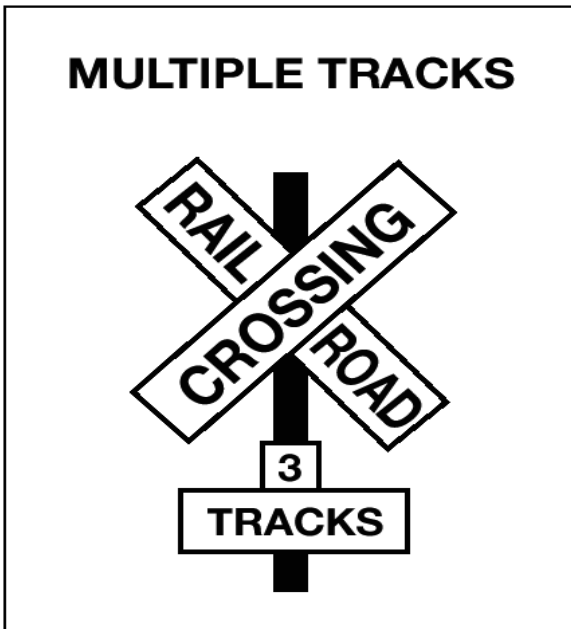

Figure 2.17
**Crossbuck Signs** - This sign marks the grade crossing. It requires you to yield the right-of-way to the train. If there is no white line painted on the pavement, you must stop the bus before the crossbuck sign. When the road crosses over more than one set of tracks, a sign below the crossbuck indicates the number of tracks. See Figure 2.17.